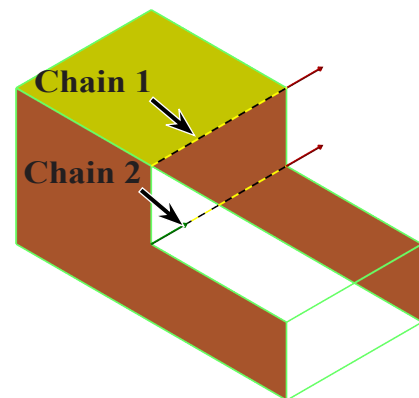

Fig. 28
Step 6. Click **Single**  (S) in the Chaining dialog box to **start each new chain**.
Step 7. Use **Chain 1** and **Chain 2** for next surface, **Fig. 28**.